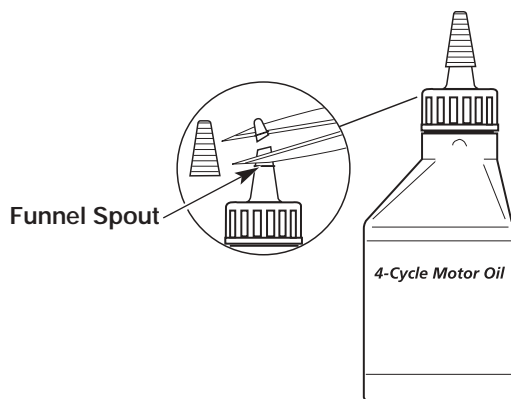

Fig. 5
Your unit is supplied with one 3.4 fluid oz. (100 ml.) bottle of SAE 30 SF, SG, SH oil (Fig. 5).
1. Unscrew the oil bottle top and remove the paper seal covering the opening. Replace the top and cut the tip off the funnel spout (Fig. 5).